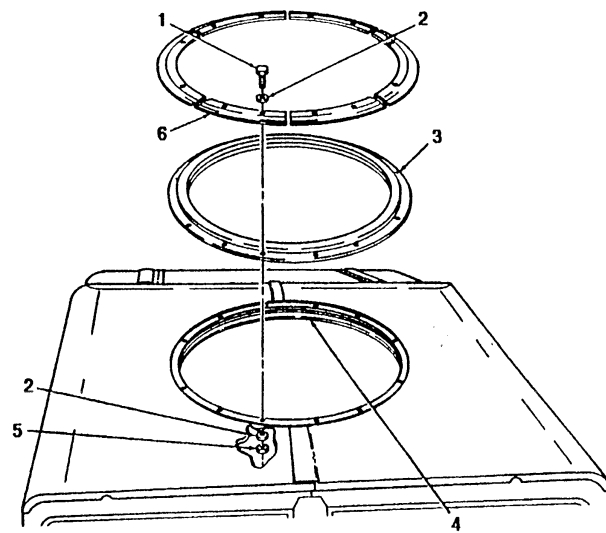

FIGURE 3-29
18. Remove twelve nuts (5), twenty-four washers (2), and twelve screws (1) securing six roof retainers (6) and bearing assembly (3) to support ring (4). (see figure 3-29)
19. Remove six roof retainers (6) and bearing assembly (3) from support ring (4).